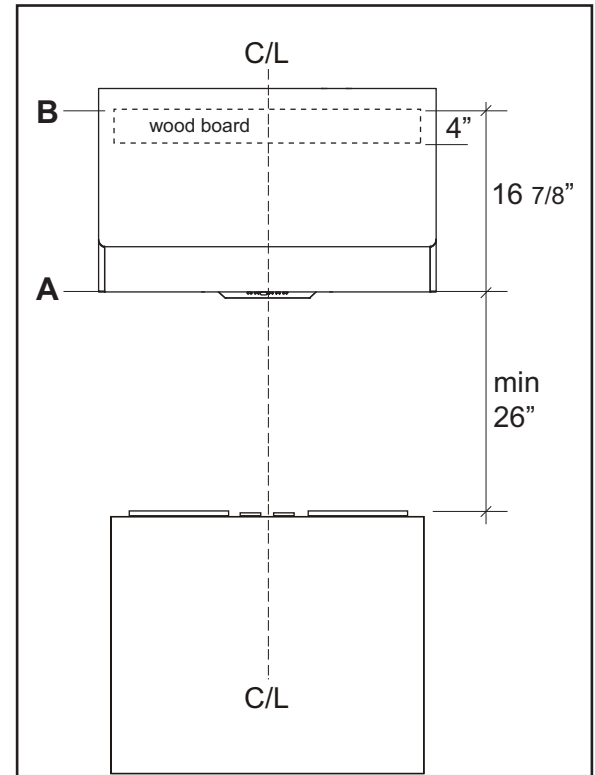

FIG. 1
3. Choose desired height above cooking surface (26" min). Level and mark hood bottom, line A (FIG. 1)
4. Level and mark top of wood board, line B (FIG. 1) 16 7/8" from line A.
5. Mark center line of wood board. Center and align top of board with line B. Secure wood board to studs using (4) M6 wood screws.